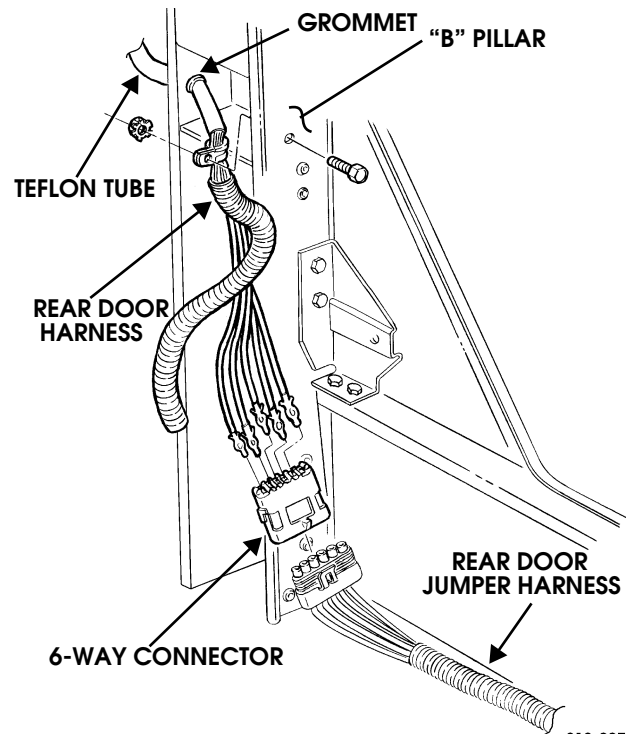

Figure 2-124: Rear Door Harness and Rear Door Jumper Harness
3. Route harness through B-pillar rubber grommet (Figure 2-124).